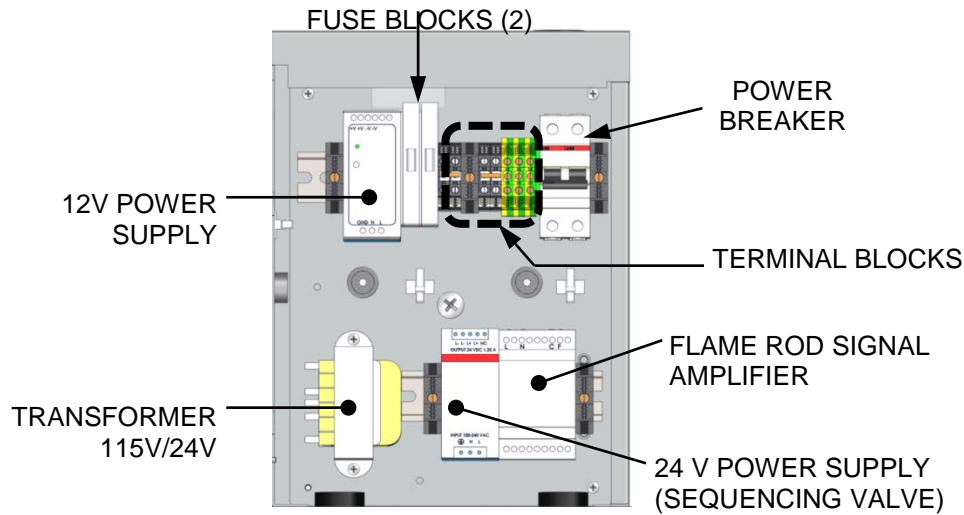

Figure 2-10a: BMK 750/1000 Power Box Internal Components
The power breaker shown in Figure 2-10a, 2-10b and 2-10c does **NOT** remove power from the terminal blocks.
- With the exception of the transformer shown in Figure 2-10a 2-10b, and 2-10c, all of the components in the Power Box are mounted on a DIN rail.